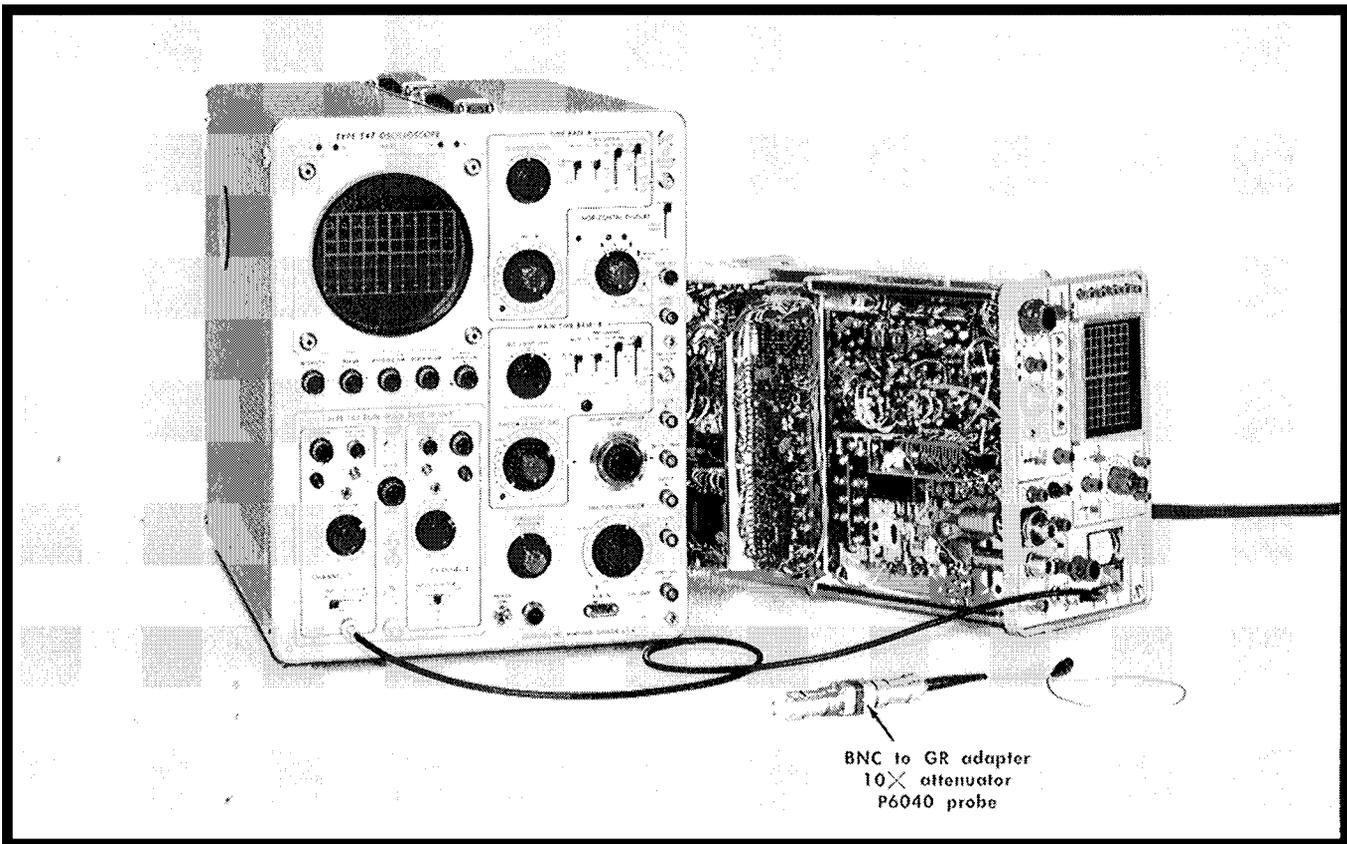

Fig. 6-32. Test equipment setup to check or adjust the phase lock circuit.
**26. Adjust Avalanche Voltage** ①
- a. Equipment setup is given in Fig. 6-32.
b. Apply the output from the 1 MHz MARKERS OUT signal through a 10X attenuator to J120 on the honeycomb assembly as follows: Connect a GR to Sealectro adapter (such as a P6040 probe cable), a GR to BNC adapter and a 20 dB attenuator, (see Fig. 6-32) between the 1 MHz MARKERS OUT connector and J120. Disconnect the Sealectro connector from J120.